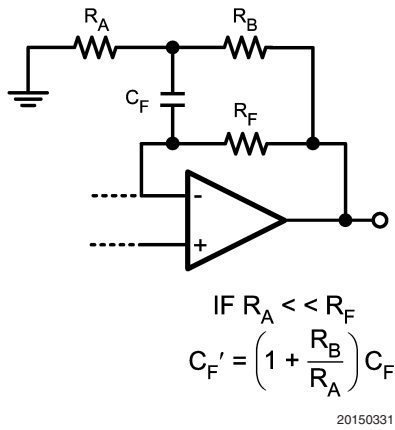

FIGURE 6.
Calculating C_F from Equation (3) can sometimes result in capacitor values which are less than 2 pF. This is especially the case for high speed applications. In these instances, it's often more practical to use the circuit shown in Figure 6 in order to allow more sensible choices for C_F . The new feedback capacitor, C'_F , is $(1 + R_B/R_A) C_F$. This relationship holds as long as $R_A \ll R_F$.